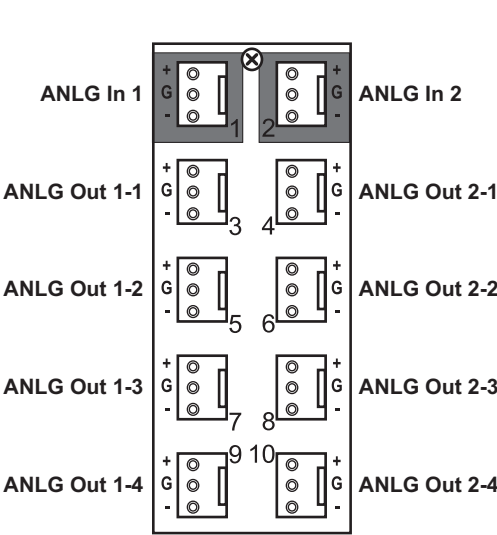

Figure 2.2 Cable Connections for the **8310AR-042** and **8320AR-042** Full Rear Modules
- **8310AR-042** Full Rear Module — Each module occupies one slot and accommodates one card. This rear module provides two analog inputs, and eight analog outputs. (**Figure 2.2**)
- **8320AR-042** Full Rear Module — Each module occupies two slots and accommodates one card. This rear module provides two analog inputs and eight analog outputs. (**Figure 2.2**)